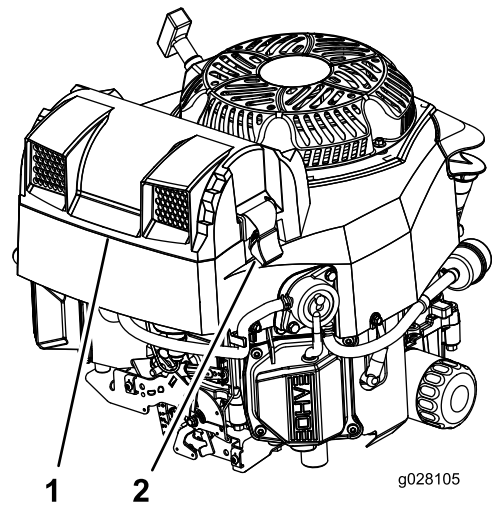

Figure 52
2. Remove the cover to access the air-cleaner elements (Figure 52).
- Install the cover, and secure it with the latches (Figure 52).